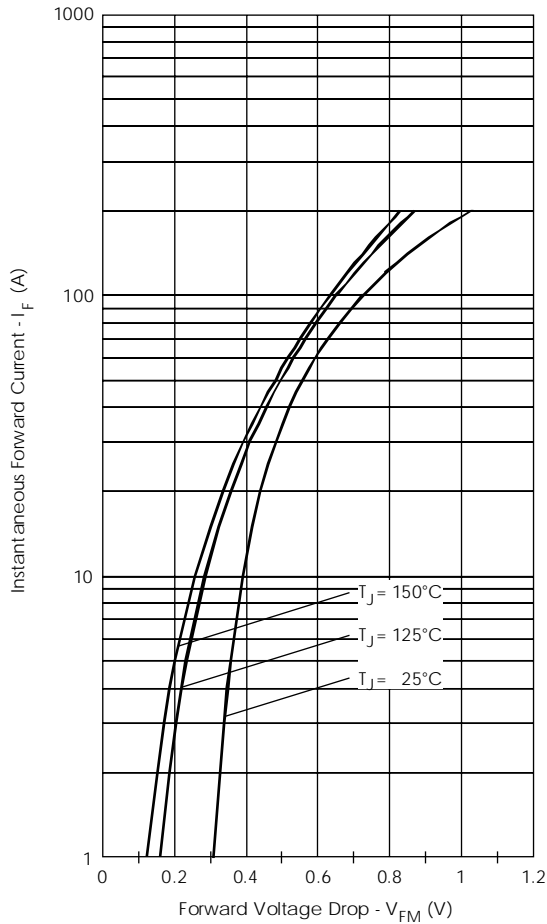

Fig. 1 - Max. Forward Voltage Drop Characteristics (PerLeg)
| $V_{FM}$ Max. Forward Voltage Drop (Per Leg) * See Fig. 1 (1)    | 0.52   | V                | @ 40A$T_J = 25^\circ\text{C}$                                       |